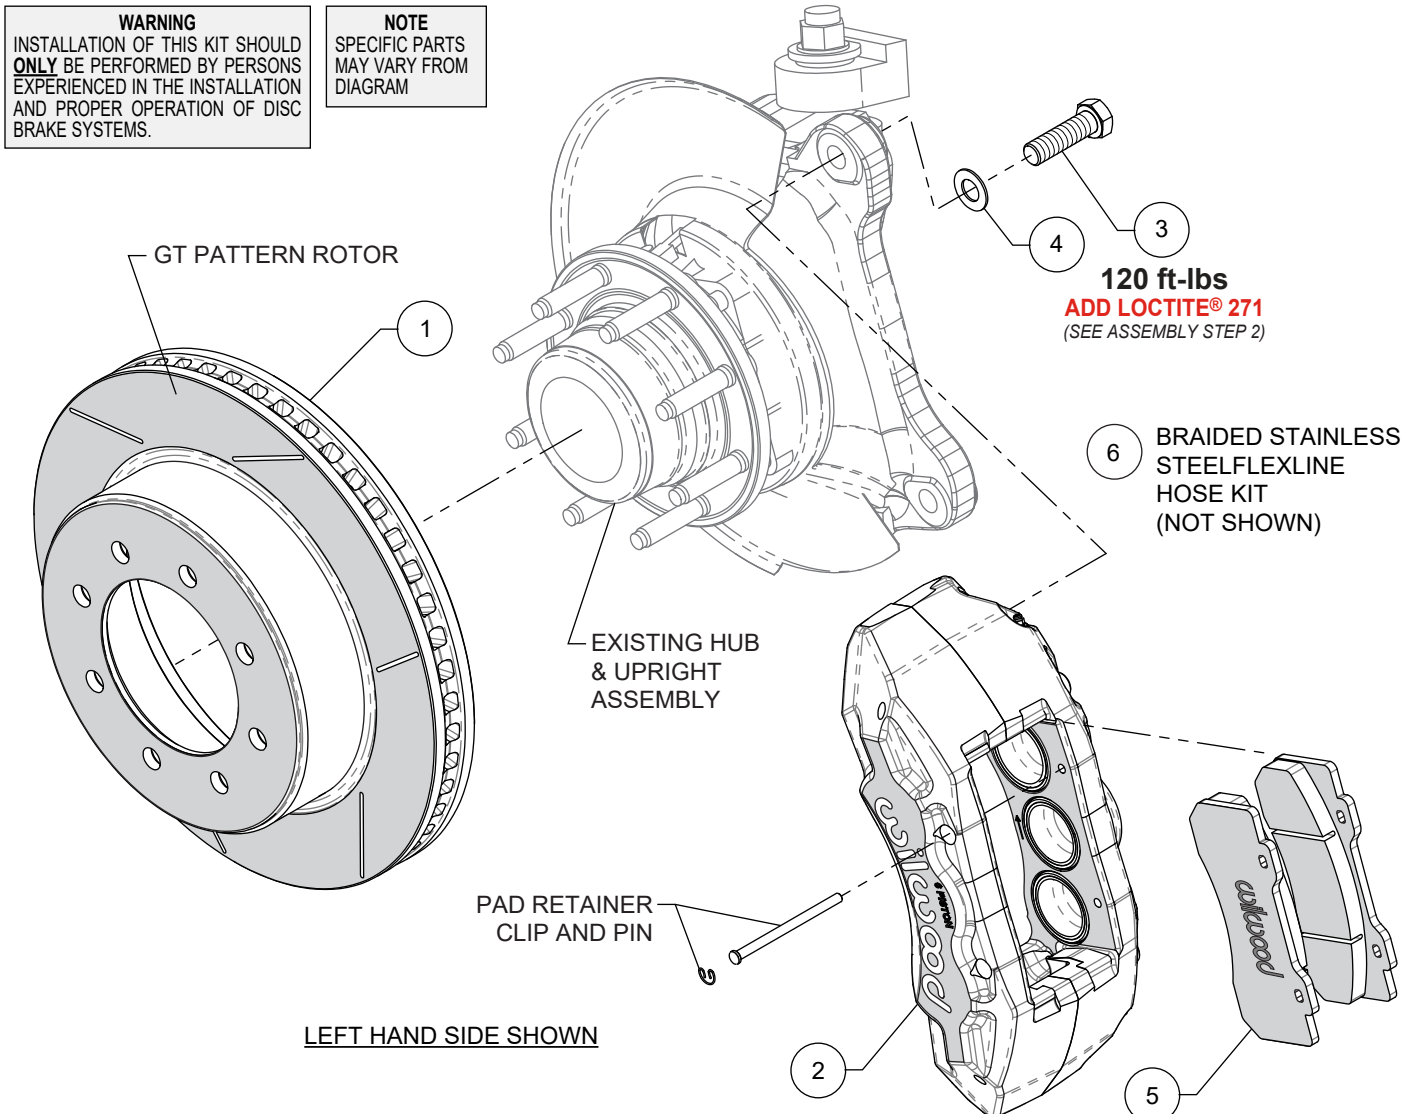

Figure 1. Typical Installation Configuration
NOTE: Numbers in parenthesis refer to the parts list and Figure 1 on the preceding pages.
STEP 1 Slide the rotor (1) onto the hub. **NOTE:** The rotor must fit flush against the hub flange or excessive rotor run out may result. Install three lug nuts (finger tight) to keep the rotor in place while continuing with the installation, Photo 1.
STEP 2 **NOTE:** This kit contains distinct right and left hand calipers that must be mounted in a specific direction, as described below. Ensure that the caliper is mounted so the largest pistons are at the rotor exit end of the caliper, in relation to the forward direction of the rotor. Mount the caliper (2) onto the OEM caliper mounting bosses of upright using bolts (3) and washers (4), as shown in Photo 2 and Figure 1. Apply red *Loctite*® 271 to bolt threads, and torque to value shown in Figure 1.
STEP 3 Remove the two pad retaining pins from the caliper by carefully popping out the pin retaining clips and sliding out the pins. Insert the brake pads (5) into the caliper, with the friction material facing the rotor, as shown in Photo 3. Secure the brake pads in place with the pad retaining pins and clips, Photo 4.
STEP 5 Attach brake line to caliper. **NOTE:** OEM rubber brake hoses generally cannot be adapted to Wilwood calipers. Install Wilwood's stainless steel braided flexline hose kit (6) that is included with this kit. See below for more info on flexline kits.